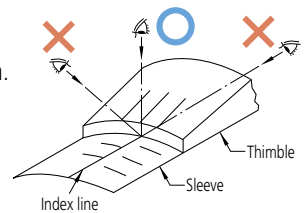

Fig. 2
1. Read the graduations seen directly from above to avoid parallax error. **(Fig. 2)**